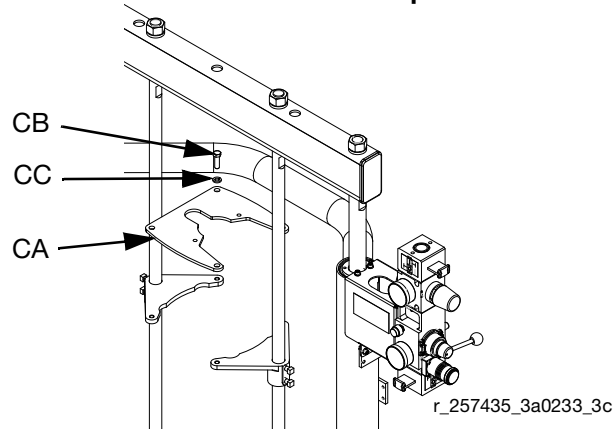

FIG. 9
1. Position the mounting brackets (42) so that the top of the pump will clear the support beam (4).
2. For President, Monark Check-Mate 200, and Fire-Ball Pumps only, install the mounting plate (CA) onto the mounting brackets (42) using four screws (CB) and lockwashers (CC). See Fig. 9.